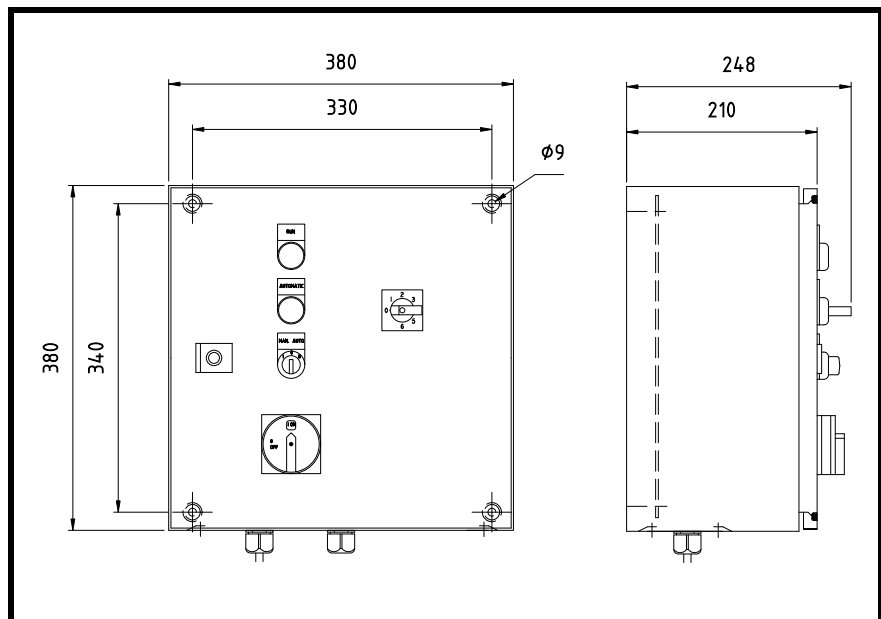

Figure 3: Controller dimensions
2. Please observe the dimensions in fig. 3 and draw the drilling template on a wall or similar. Use all four provided attachment points.